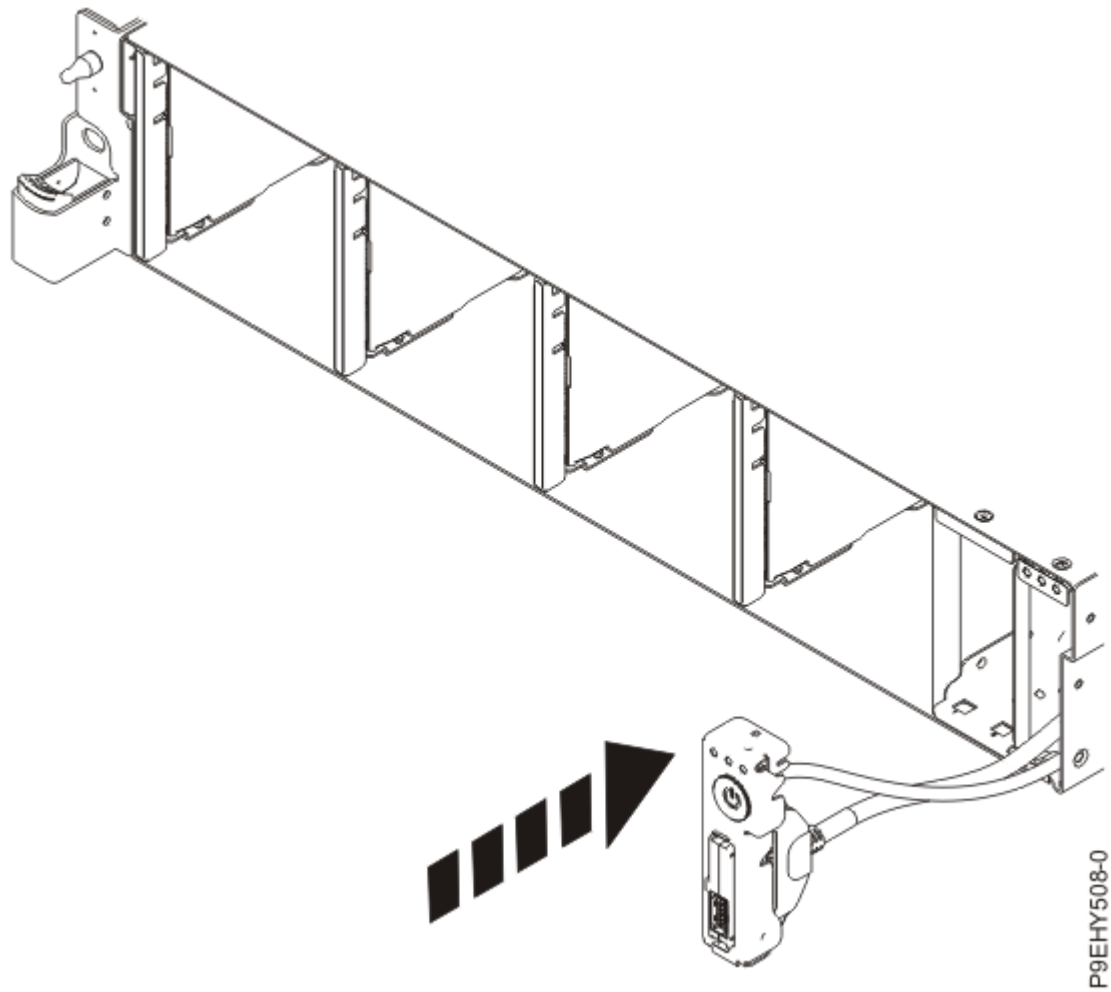

Figure 106. Replacing the front USB cable into the system backplane
4. Insert the USB cable and the power switch and cable into the system as shown in Figure 106 on page 126. Be careful to route the cables through to the system backplane.